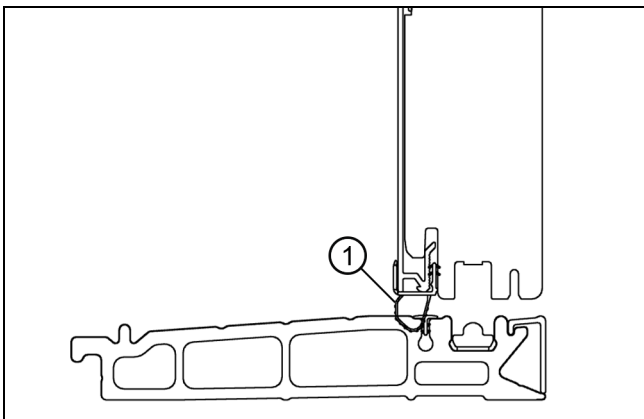

Figure 13
1. On active and inactive operator panels as well as interior stationary panels, insert the barbed side of the sill weatherstrip into the bottom of the panel. Rotate the other side to the clad side of the panel and then remove the adhesive backing. Press the weather strip onto the cladding. See Figure 13.